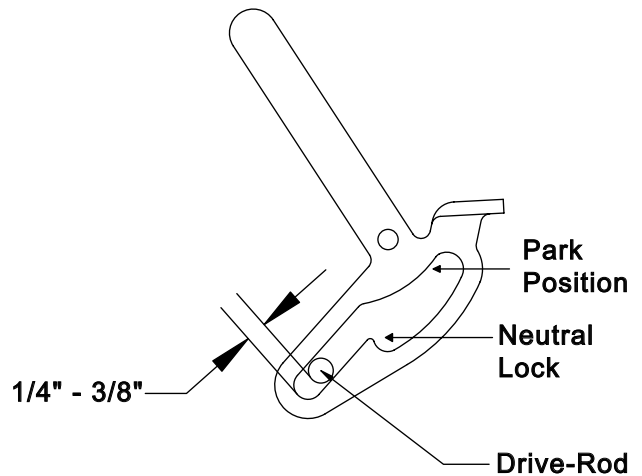

Fig. 2
- Using drive rods provided, turn them into the 5/16" swivel located in the left and right hand idler engagement bracket. Adjust the rods so that there is approximately 1/4" to 3/8" between the rod and the bottom of the thumb latch. Rods should be locked in place by using 4 – hair pin cotters and by placing a 5/16" flat washer to be inside of the drive handle between the drive lever and hair pin cotter. (See fig. 2)
- Keep a 1/8" to 1/4" clearance between belt guides and belts. Be sure the drive control rod is properly adjusted in the thumb latch. (See Fig 2.)